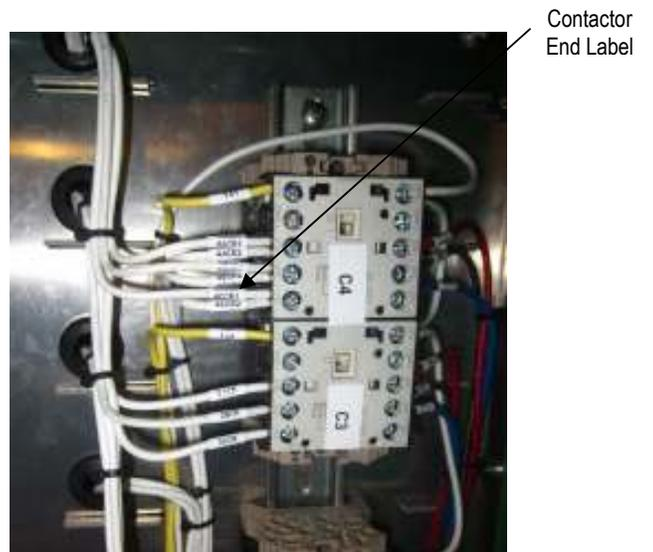

Figure 12b
- Disconnect the bad resistor wires from the contactors shown in figure 12b. Do not disconnect the wires from the resistor side. Each wire is labeled on both ends for easy location.